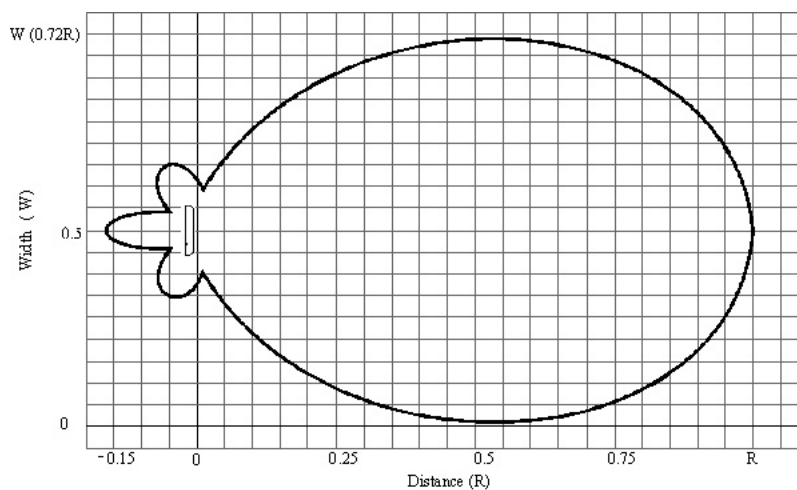

Figure 1. Effective RF field for tags with LR-3000 reader.
The reader's effective RF field, in which the long-range credentials can be detected, is maximized when there is no material in front of the reader or immediately to the sides of the reader. See the LR-3000 Effective RF Field diagram (Figure 1 on page 4).
- By moving the test tag in the space in front of the LR-3000 reader, the tester can map the extent of the effective RF field that is plotted in Figure 1. The reading distance should extend from the reader's face to the guaranteed 10 feet or 15 feet with the test tags. The maximum diameter of the field's cross-section, at half of the maximum range, should be about 6 feet.